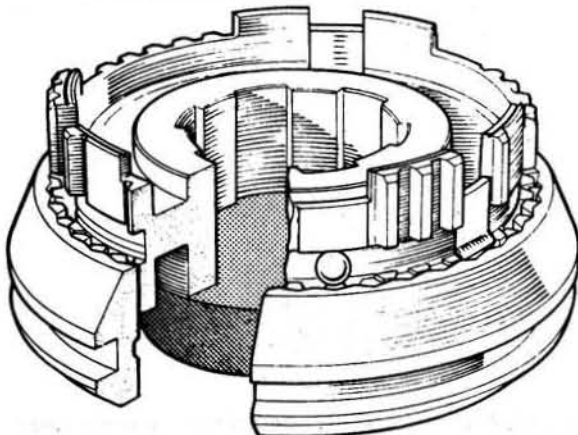

Fig. 6.23. Fitting the springs, plungers and thrust members
- 3 Pack up the synchro hub so that the holes for the ball and springs are exactly level with the top of the operating sleeve as shown in Fig.6.23.